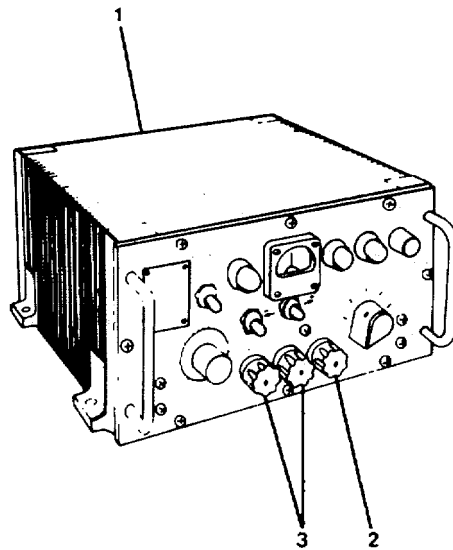

FIGURE 2-4. Gyro Control and Power Assembly Fuse Replacement.
- (1) On gyro control and power assembly (1, FIGURE 2-4), push in on appropriate fuseholder cap (AC or RPTR), turn counterclockwise, and remove fuse (3).
- (1) On pilothouse IC/ELEX panel, set circuit breaker No. 1 (MK 27 GYRO PWR CONV UNIT) to OFF. Tag "Out of Service, Do Not Operate."
- (2) On pilothouse dc panel, set circuit breaker No. 1F (MK 27 GYRO PWR XFR UNIT) to OFF. Tag "Out of Service, Do Not Operate."
- (3) On gyro control and power assembly (1, FIGURE 2-4), push in on DC 8 AMP fuseholder cap and turn counterclockwise and remove fuse with fuseholder cap.
- (4) Remove fuse (2) from fuseholder cap.
- (5) Place replacement fuse into fuseholder cap (2).
- (6) Insert fuseholder cap on gyro control and power assembly (1), push in and turn clockwise.
- (7) On pilothouse IC/ELEX panel, set circuit breaker No. 1 (MK 27 GYRO PWR CONV UNIT) to ON. Remove "Out of Service - Do Not Operate" tag.
- (8) On pilothouse dc panel, set circuit breaker No. 1F (MK 27 GYRO PWR XFR UNIT) to ON. Remove "Out of Service - Do Not Operate" tag.
- (9) Start compass (TM 55-1905-223-10).